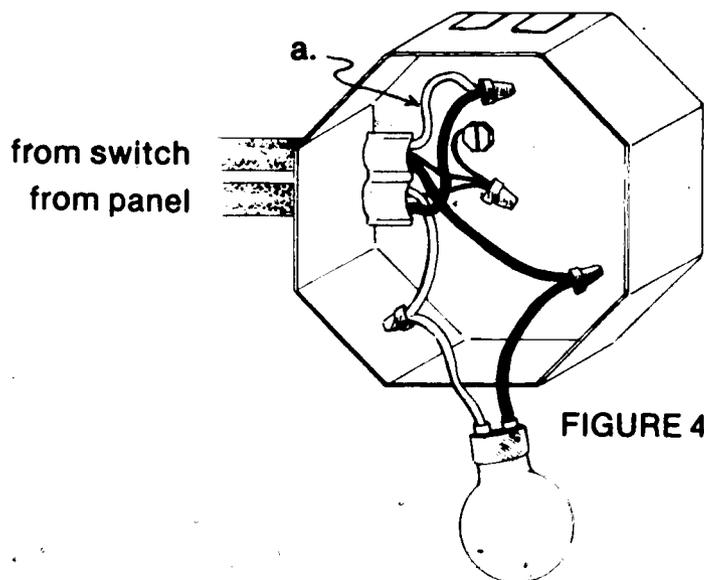

FIGURE 4
- M. Make up outlet box (Figure 4)